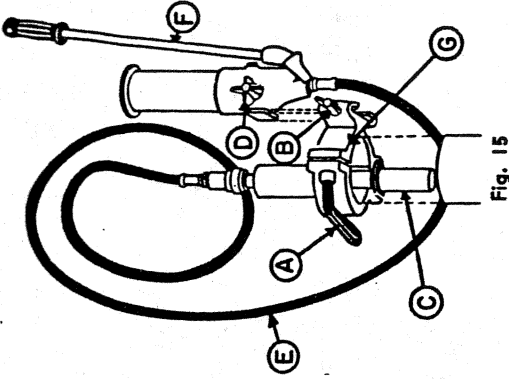

Fig. 15
- The "Hydra-Power" Feed assembly consists of the ram mounted to the column bracket, the connecting base hose and the pump with operating handle Fig. 15. Bracket G slides down over the top of the drill press column. Bracket has clamping handle A, also a clamping wing nut B holds the pump assembly in place. The ram assembly C is screwed into the column mounting.
The pump has a control valve D (Fig. 15) which is turned to the right when it is in pumping position and has to be turned to the left in order to release the ram when the drilling operation is completed. The pump must be held in a vertical position, that is, with the handle F and body held vertical so that fluid will flow through the tube E. The pump is fitted with an internal release valve which utilizes the large capacity of this unit without overloading. Instructions for filling the hydraulic pump are listed under "Adjustments." Move the drill unit down the column so that the bit is positioned just above the work. Then, loosen handle A and slide the ram down the column so that it contacts the surface of the casting behind the drill unit. The ram should be in its uppermost position which is obtained by turning valve D counterclockwise and pushing the ram up into the piston. Then, tighten lever A and make sure that valve D is tightened in a clockwise direction. Pumping action by means of the lever will then force the drill bit down to a maximum distance of 3 inches. When the drilled hole is complete, release valve D by turning counterclockwise. Loosen lever A and raise the drill unit back out of the hole by means of the hand levers furnished on the unit. This will complete the drilling operation.